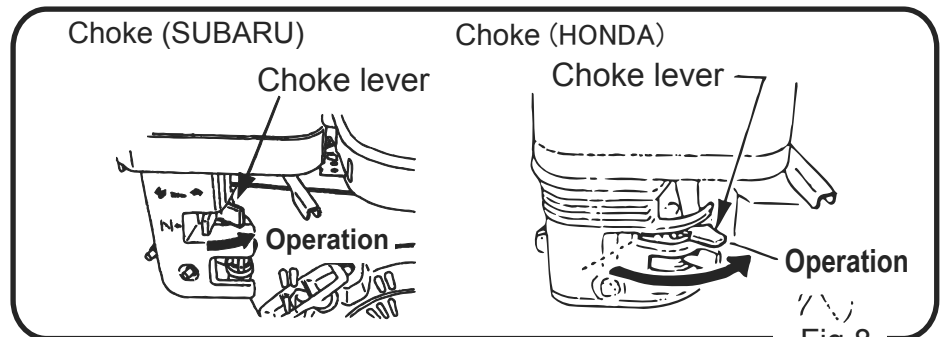

Fig.8
- 8-1-6 When the engine has started, return the speed control lever to the low speed position immediately. Listening to the sound of the explosion, return the choke lever gradually to the fully open condition. (Fig.8)